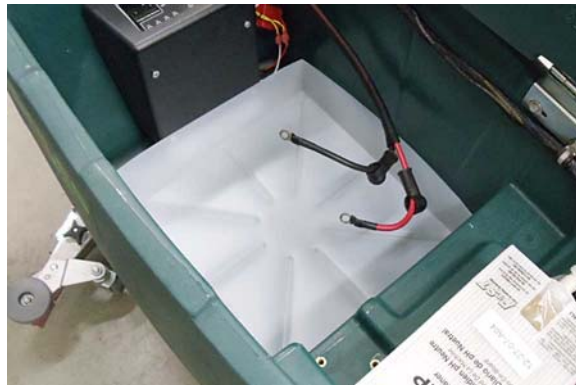

Fig. 10
10. Install new battery tray (Figure 10).